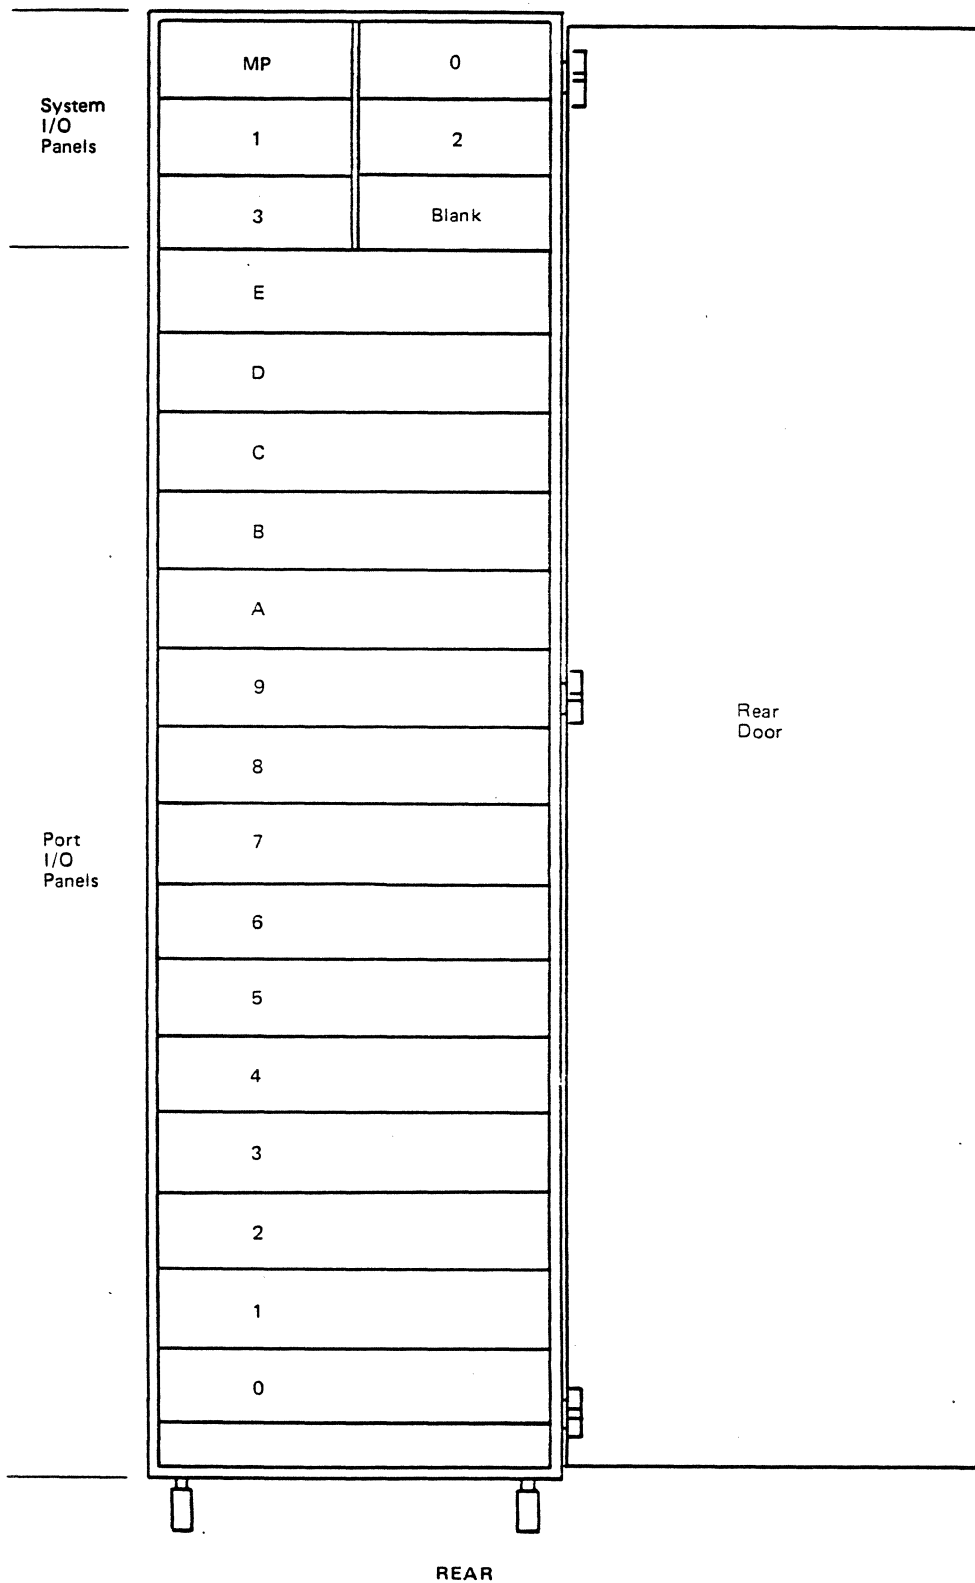

Figure 1-3. Matrix Switch, Rear View
The Microprocessor Connector Panel (Figure 1-3) provides interfaces between the Matrix Switch and the following equipments:
The network control interface panel (Figure 1-3) provides four redundant EIA lines to connect a Matrix Switch at one location to Matrix Switches at other locations. Switching control and reporting information are relayed through these channels.
Port Connector Panels 0 through E (Figure 1-3) provide connections for the V.24/RS232C, V.35, and voice frequency (VF) interfaces.